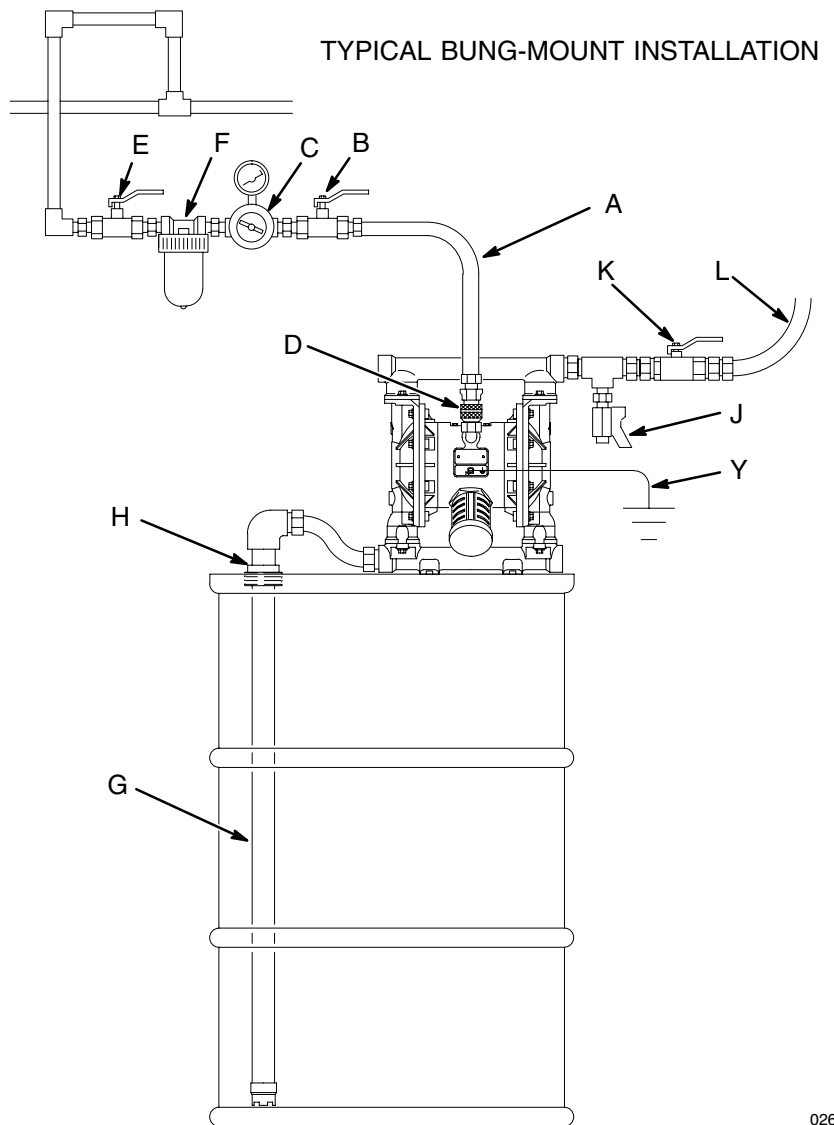

Fig. 2
- The Typical Installations shown in Figs. 2–4 are only guides for selecting and installing system components. Contact your Graco distributor for assistance in planning a system to suit your needs.
1. Install the air line accessories as shown in Figs. 2–4 on pages 7 and 8. Mount these accessories on the wall or on a bracket. Be sure the air line supplying the accessories is grounded.
- a. Install an air regulator (C) and gauge to control the fluid pressure. The fluid outlet pressure will be the same as the setting of the air regulator.
- b. Locate one bleed-type master air valve (B) close to the pump and use it to relieve trapped air. See the **WARNING** above. Locate the other master air valve (E) upstream from all air line accessories and use it to isolate them during cleaning and repair.
- c. The air line filter (F) removes harmful dirt and moisture from the compressed air supply.
2. Install a fluid drain valve (J) near the fluid outlet. See the **WARNING** above, and Figs. 2–4 on pages 7 and 8.
3. Install a shutoff valve (K) in the fluid outlet line.
KEY FOR FIG. 2